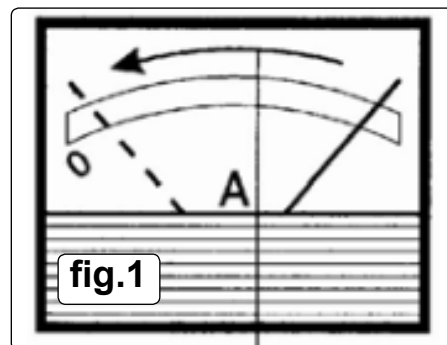

fig.1
4.3.2. Check the current delivery to the battery by reading the ammeter on the front of the battery charger. During charging the pointer on the ammeter will slowly move to the left according to the capacity and condition of the battery (see fig.1, meter face may vary according to model.)